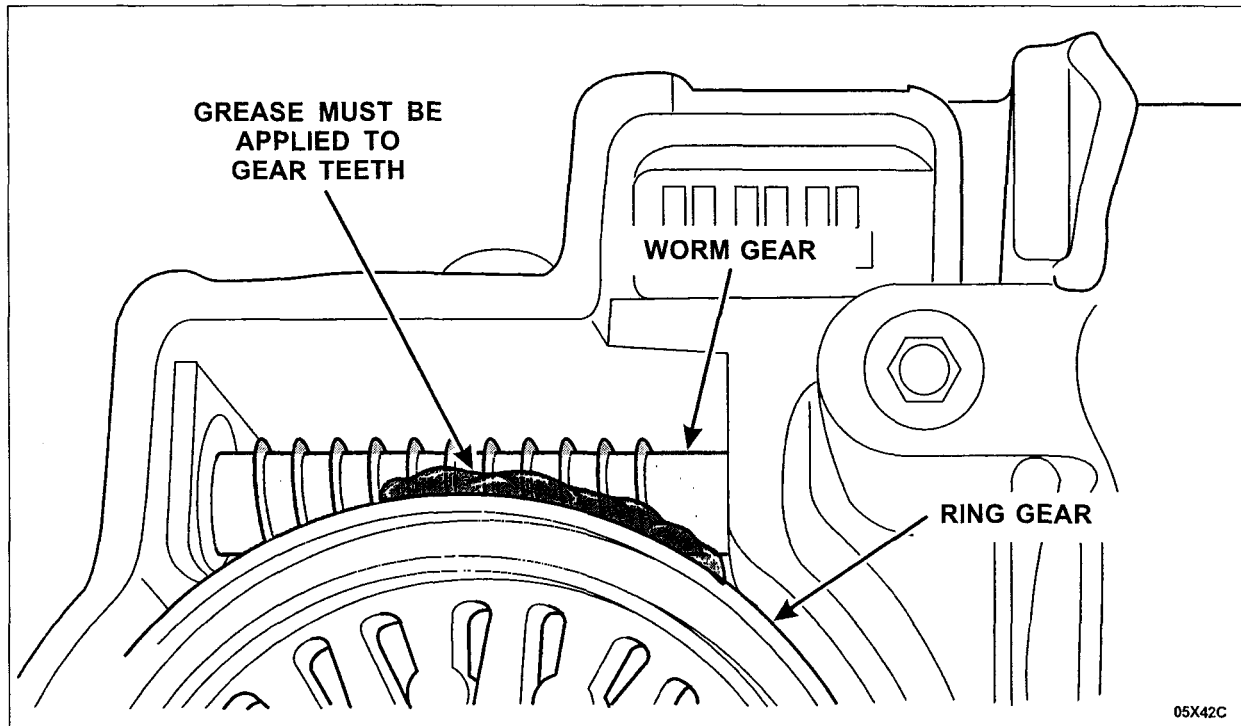

FIGURE 3
- If no grease is present, apply a bead of grease, part number QFP, approximately 2-3 mm (1/8 in) wide and 20 mm (3/4 in) long, to the worm and ring gear mating area, beginning where the worm gear exits the motor. See Figure 3. The first tube will be shipped to dealers free of charge. **DO NOT USE ANY OTHER GREASE.** Then, refer to Gear Cover Installation for detailed gear cover installation procedures.